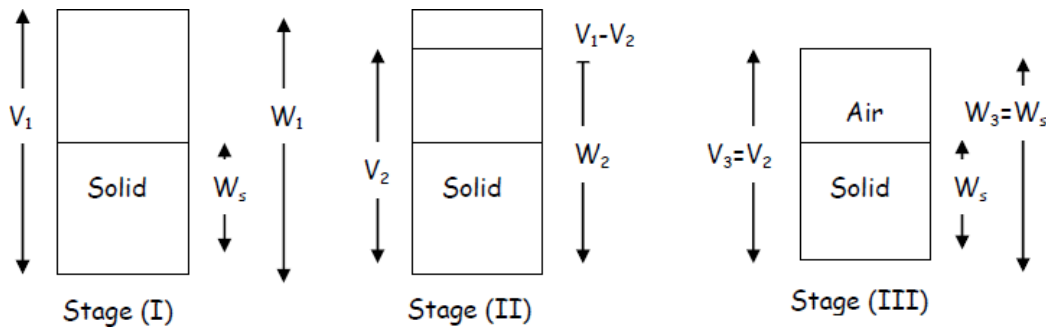

Figure 5: Stages for derivation of shrinkage limit
Figure 5(Stage(I)) shows the block diagram of a soil sample when it is fully saturated and has the water content greater than expected shrinkage limit, Figure 5 (Stage (II)) shows the sample at shrinkage limit and Figure 5 (Stage (III)) depicts the condition at oven dry state.